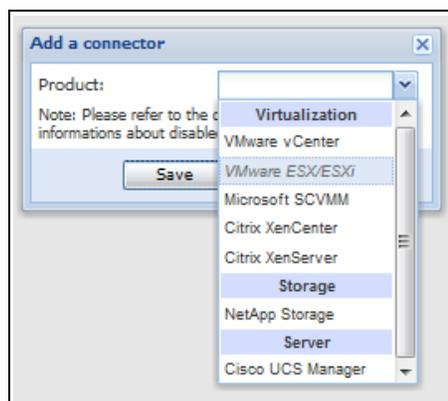

Figure 80. Add a Connector Product Selection Dialog
1. From the Add a Connector dialog, select VMware vCenter from the Product drop-down list (see Figure 80). A second Add a connector dialog displays for your product connector selection.